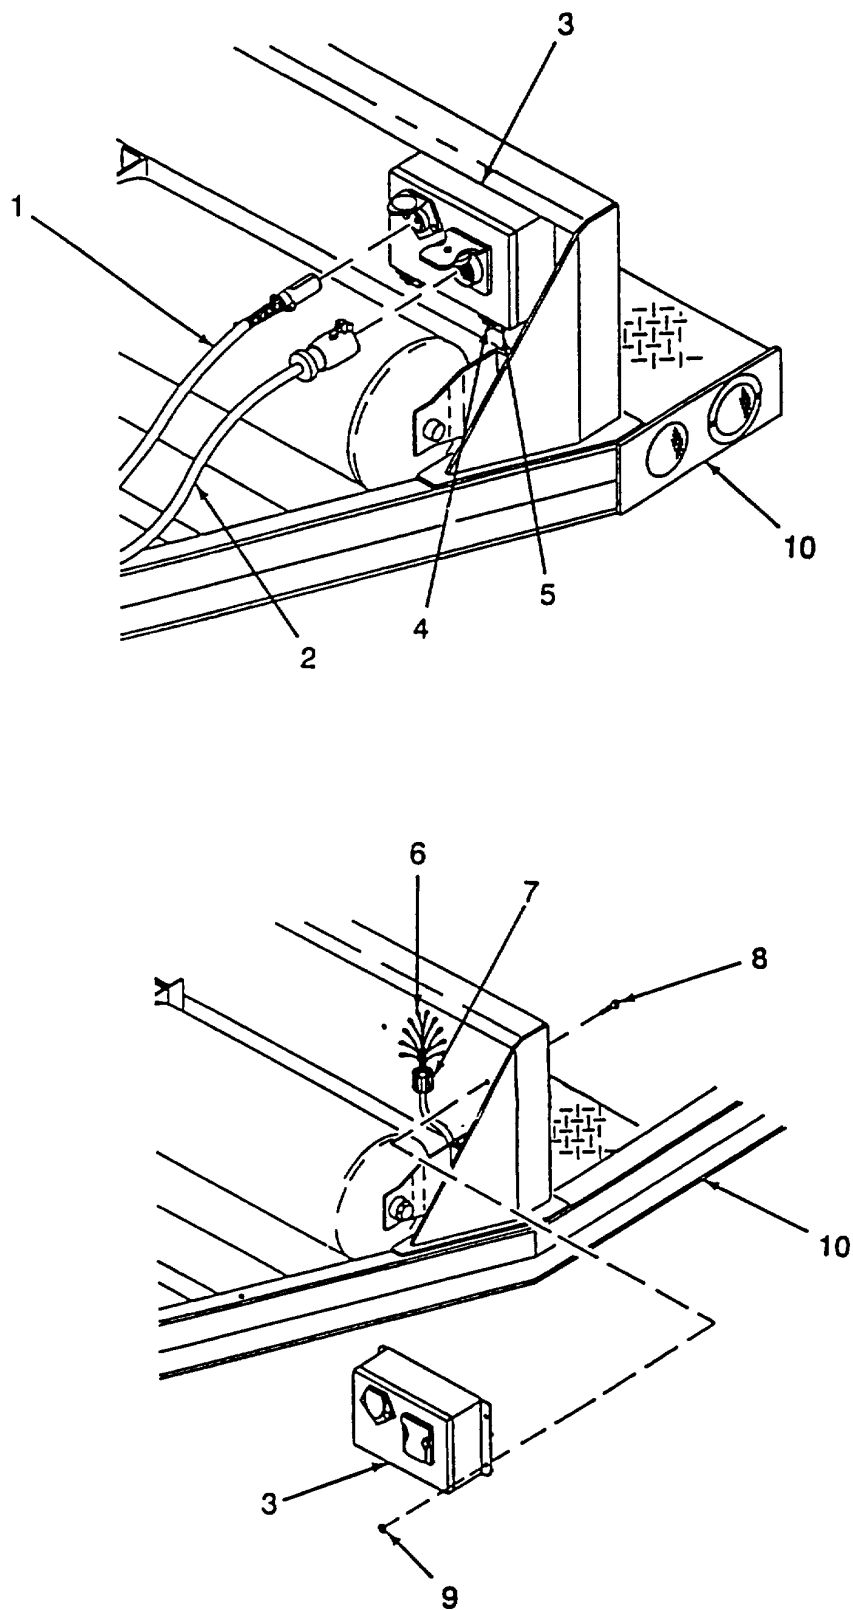

Figure 4-58. Voltage Reducer Box
b. Removal. (Refer to Figure 4-58).
- (1) Disconnect 12V intervehicular harness (1) and 24V intervehicular harness (2) power plugs from front of voltage reducer box (3).
- (2) Loosen two screws (4) and two latches (5) on bottom of voltage reducer box (3).
- (3) Tag and identify ten trailer harness wires (6). Disconnect trailer harness wires (6) inside of voltage reducer box (3).
- (4) Loosen Harness guide nut (7) on bottom of voltage reducer box (3).
- (5) Remove trailer harness wires (6) from voltage reducer box (3).
- (6) Remove four bolts (8), and locknuts (9).
- (7) Remove voltage reducer box (3) from trailer (10).